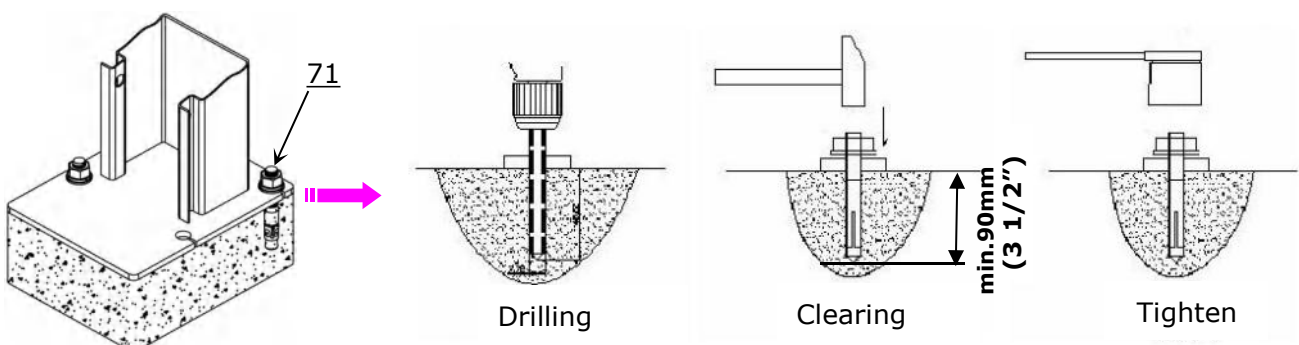

Fig. 38
- 3.Use the prescribed rotary hammer drill, drill all the anchor holes and install the anchor bolts and tighten all nuts. (See Fig. 38)